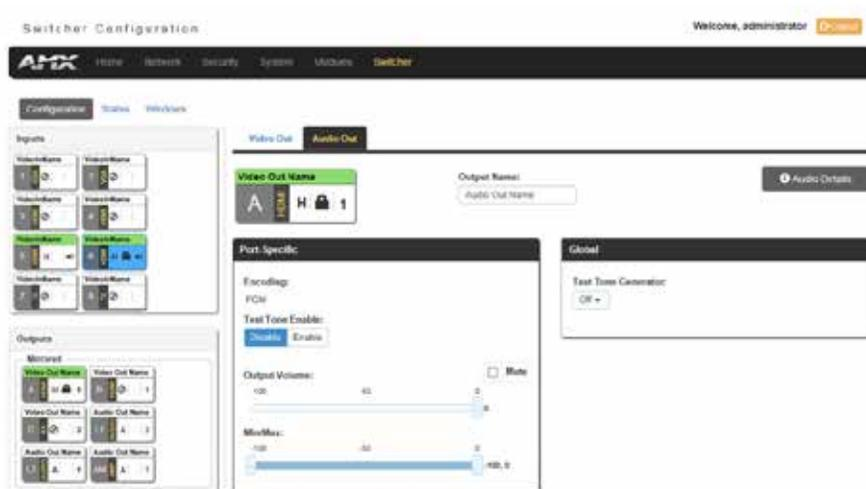

FIG. 95 WebConsole - Switcher Configuration page
3. On the Switcher page, select the **Configuration** tab (see FIG. 95).